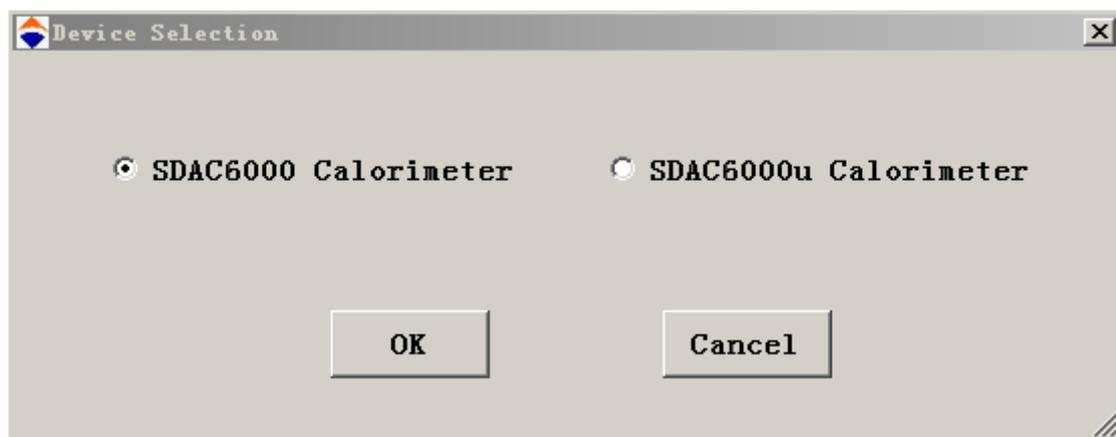

Fig 4-1 Instrument model choosing interface
1. Important information: When installing the calorimeter control software and starting the instrument at the first time, the system will pop up a selection dialog box regarding the calorimeter model automatically (as shown in figure 4-1). The debugging personnel please check according to the user's actual purchase model, and click ok.